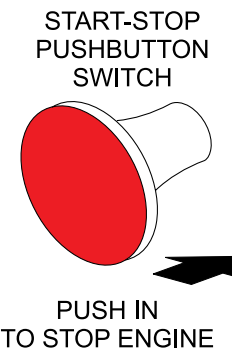

**Figure 21. Drum (Dump Position)**
1. Pull hydraulic dump lever (Figure 20) outward to place drum in **dump** position (Figure 21).